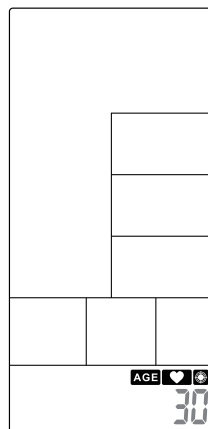

Figure 45
- ① In Standby mode, press Target Heart-Rate key and **AGE** will light up, along with along sound for 1s.
- ② AGE value is flashing, press UP and DOWN to preset your Age (Figure 45). Press ENTER to confirm along with buzzer beeps 1S and HEART RATE last lighting up.